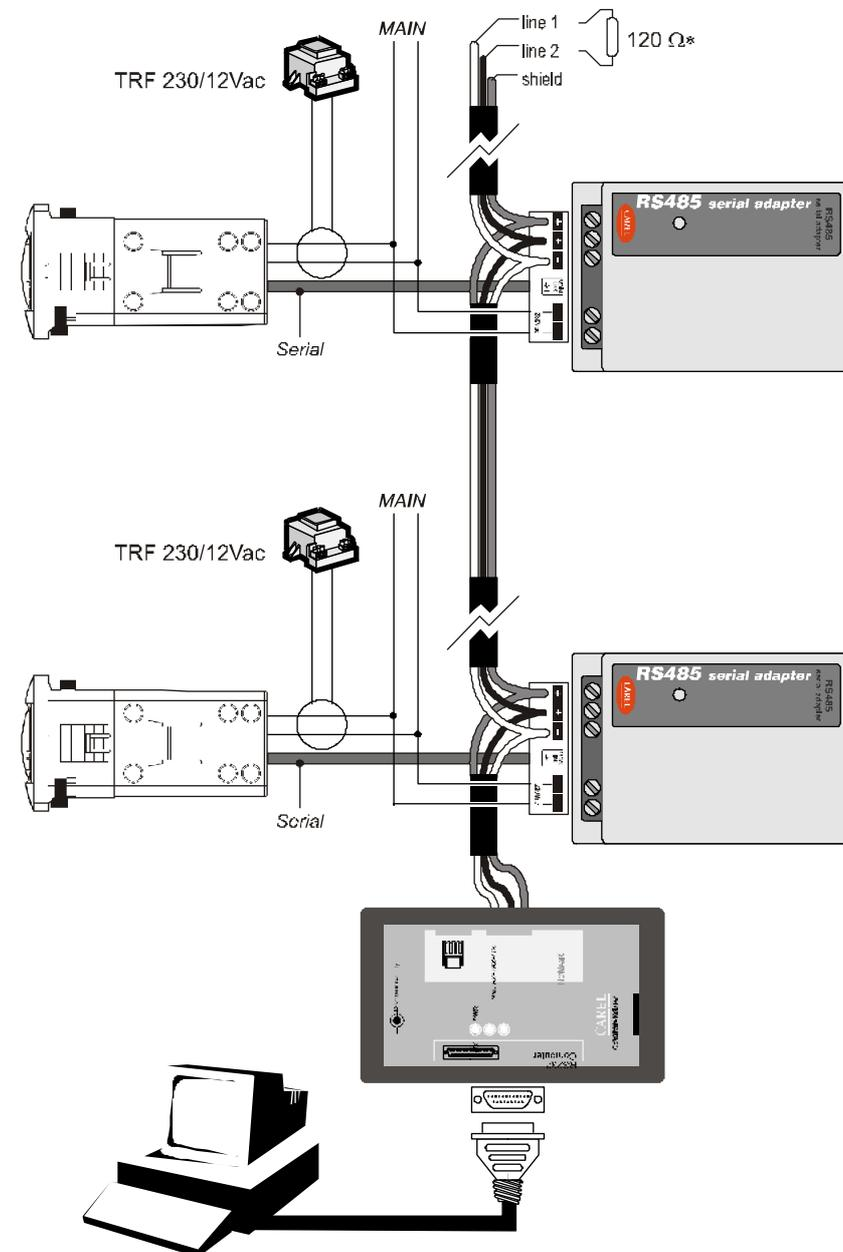

Fig. 8.2.1
- 230Vac mains power connections to terminals 1 and 2, as in Figure 8.2.1 (indicated by **230Vac** on the module);
- RS485 serial connection on terminals 3, 4, 5 as in Figure 8.2.1 (indicated by **—**, **+** and **⊥** on the module).